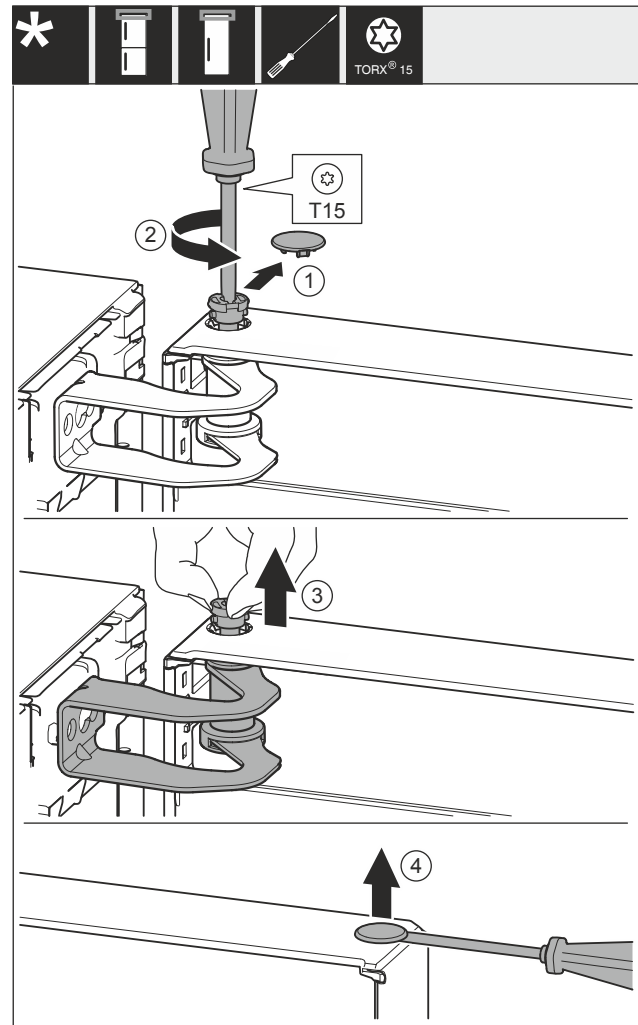

Fig. 13
- Carefully remove the cover Fig. 13 (1).
- Use screwdriver to loosen the bolts Fig. 13 (2) a little.
- Pull out the bolt Fig. 13 (3) with your fingers.
- Carefully lift and remove the cover Fig. 13 (4) with a screwdriver.